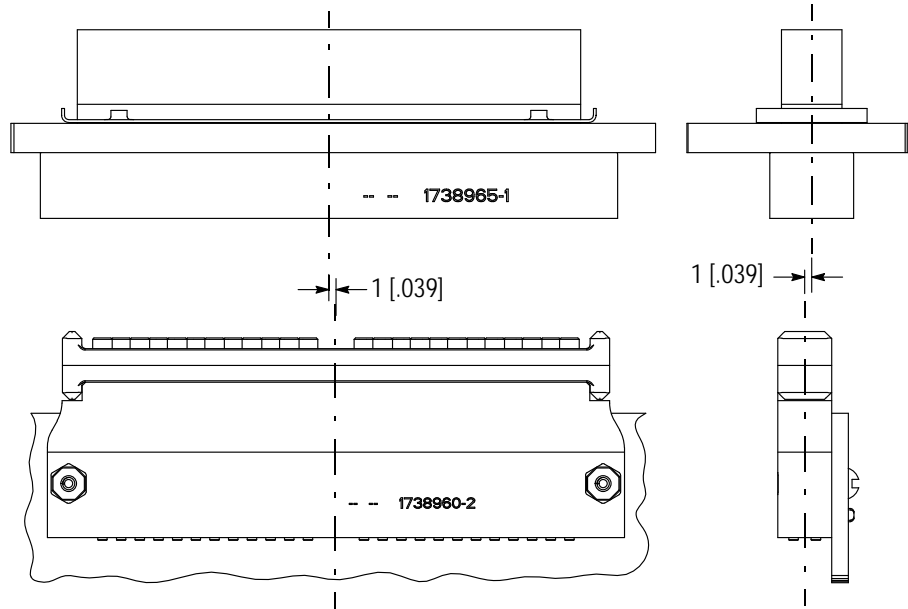

Figure 14
3.9. Connector mating and Unmating (Figure 14)